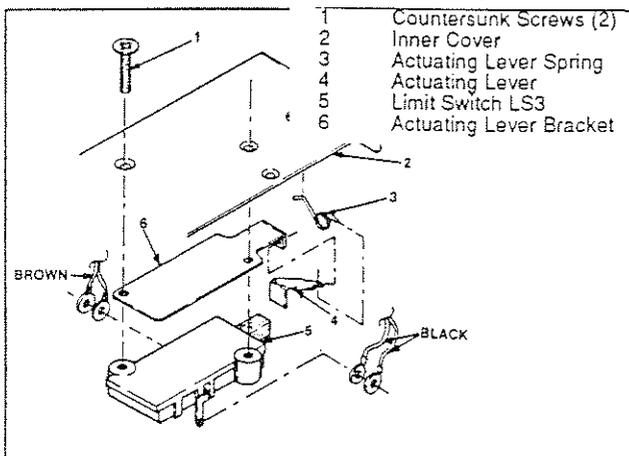

Figure 5. Exploded View of Limit Switch LS3
3. Limit switch LS3 parts are shown in Figure 5.